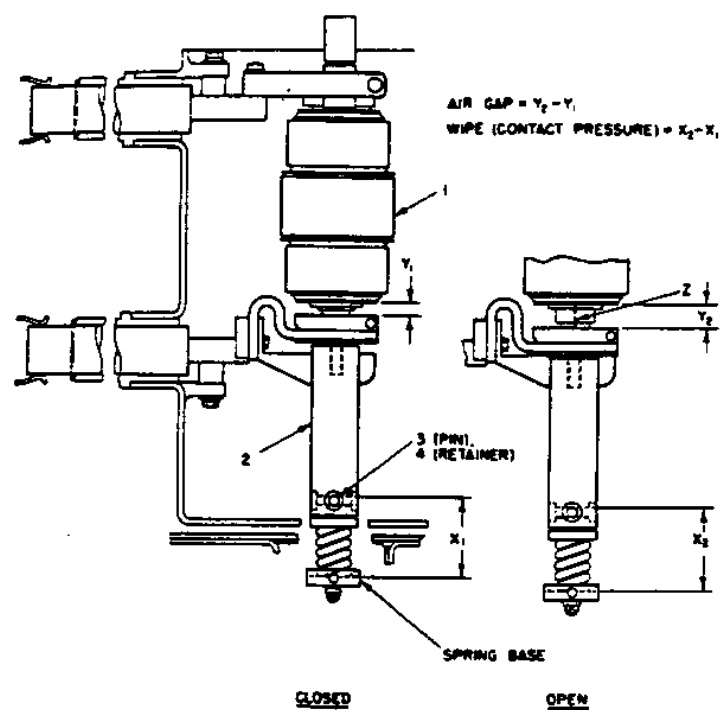

Fig. 5 — Contact Pressure
3. Contact wipe (contact pressure) (See Fig. 5). The contact air gap and contact wipe is set at the factory by setting the vertical position of the interrupter (1) and the vertical position of the pushrod (2). These parts should not be repositioned in the field unless a pushrod change is required to correct contact sequence as described elsewhere. Contact wipe is set at the factor at .11 minimum. Contact erosion and wear in mechanical parts will cause a reduction in contact wipe over the life of the breaker and a check should be made to insure that the wipe is not less than .020". The measurement is made as follows for the three poles:
4. Contact Air Gap (See Fig. 5). The contact air gap is set at the factory at the nominal dimension of .43. This value will normally increase as the contacts erode. A check of the contact air gap checks that the breaker does open fully and that the gap is sufficient to withstand the applied voltage. The measurement is made as follows for the three poles.
5. Contact sequence (See Fig. 5). All three poles should